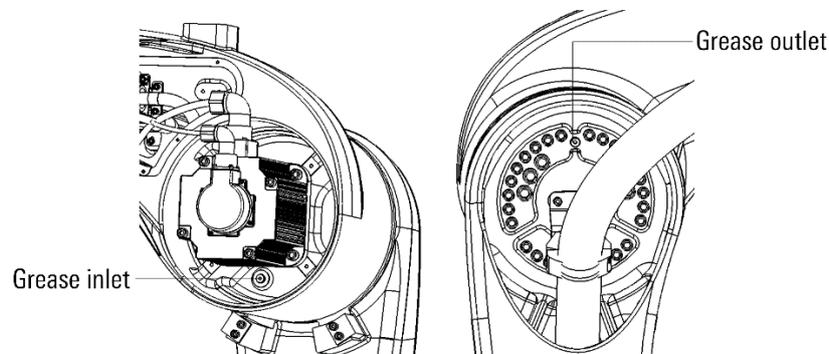

Figure 12-10 Large load manipulator replacement of J3 axis reducer grease
- Step4. Remove the grease outlet M10x1 plug, as shown in Figure 12-10.